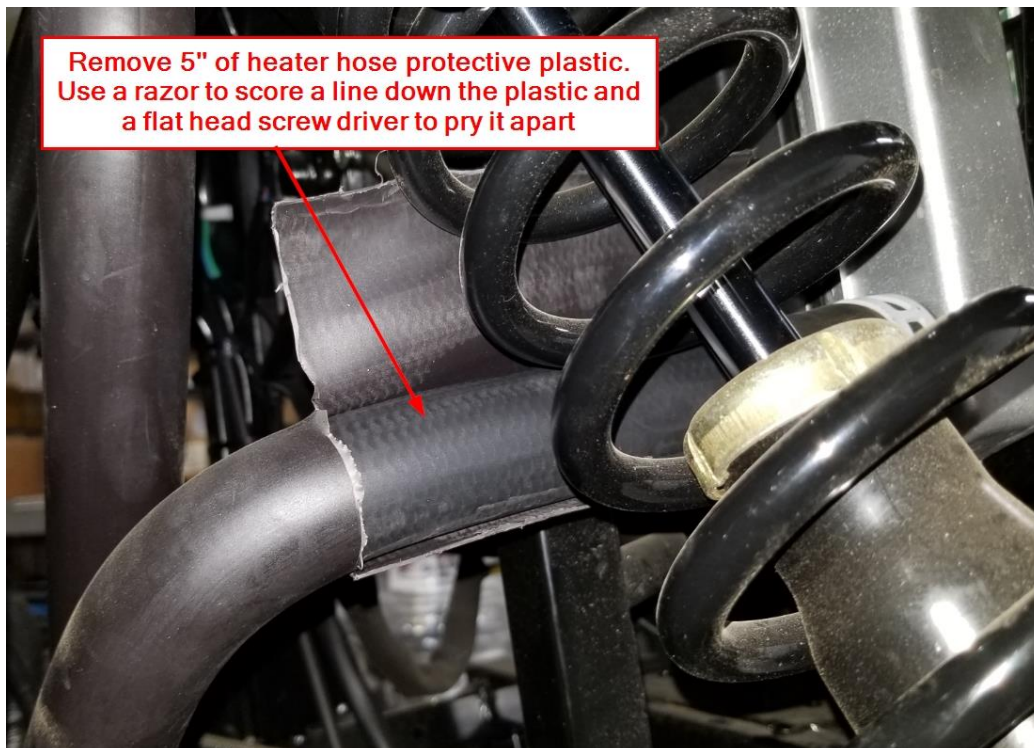

Figure 23
- e. From the Passenger side wheel well, locate the lower heater hose coming from the radiator. Use a razor blade to score the protective plastic shielding 5 inches along the radiator hose as shown in Figure 23. Use a flat head screw driver from the end nearest the radiator to rip the plastic along the score line.